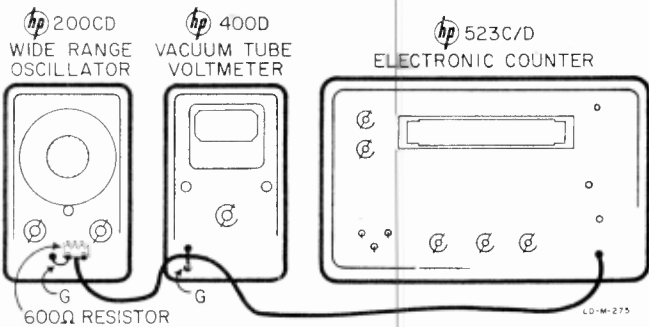

Figure 5-4. Calibration Test Setup
b. Connect the Model 200CD to an ac voltmeter and a frequency measuring device (counter or frequency standard) as shown in figure 5-4.
a. Switch Model 200CD RANGE to X100. Connect the equipment as shown in figures 5-4 or 5-5.
a. Connect the Model 200CD to an ac voltmeter and an electronic counter as shown in figure 5-4. Substitute an ac transistor voltmeter for the ac electronic voltmeter in figure 5-4.